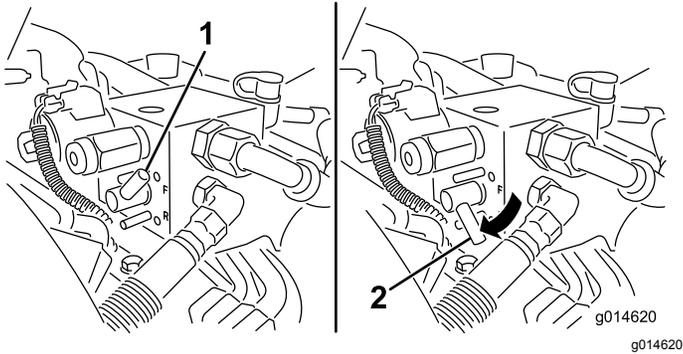

Figure 50
5. Rotate the backlap lever to the REVERSE (R) position (Figure 50).